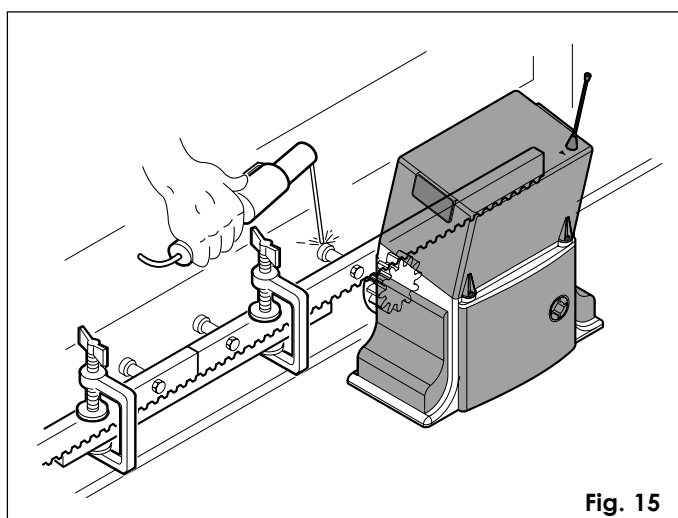

Fig. 15
- 5) Bring another rack element near to the previous one, using a piece of rack (as shown in figure 15) to synchronise the teeth of the two elements.
- 4) Bring another rack element near to the previous one, using a piece of rack (as shown in figure 15) to synchronise the teeth of the two elements.